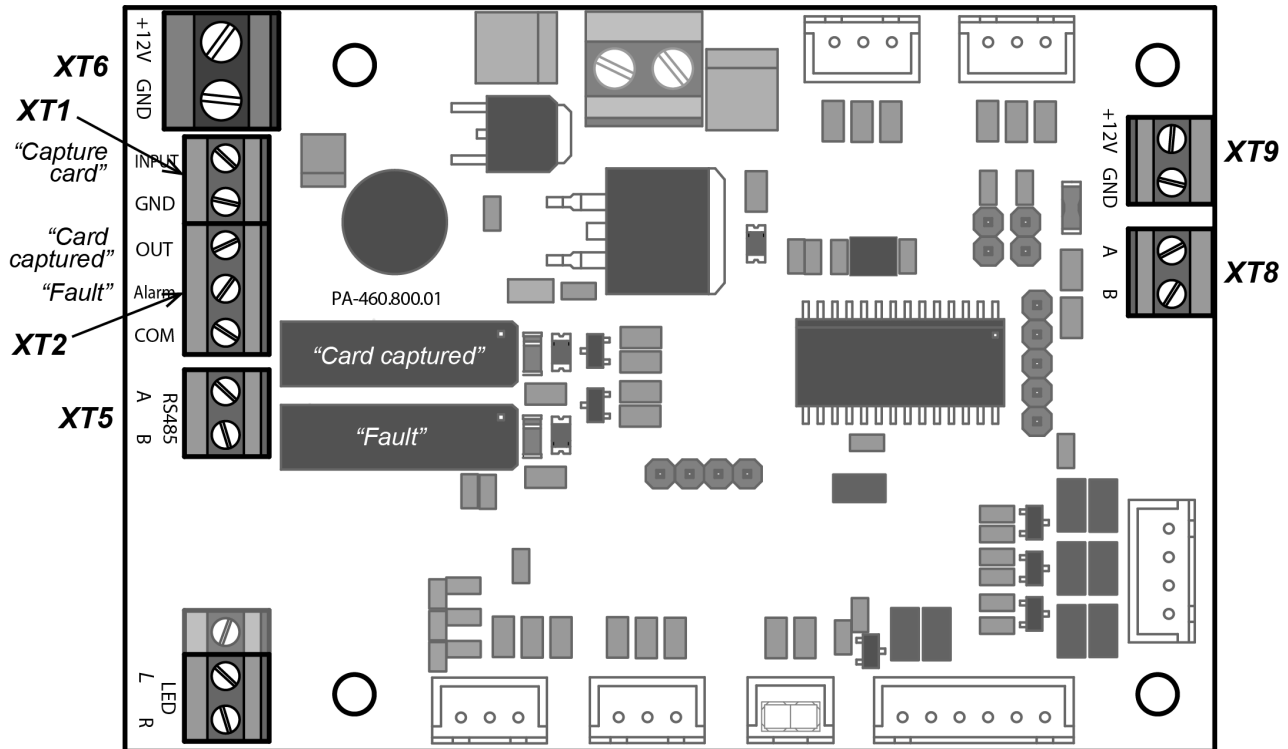

Figure 10. Control board of the card capture reader
3. If the presented card is a visitor's temporary card and requires withdrawal, the ACS controller sends a control signal to the input of the card capture reader control board "*Withdraw card*" (*INPUT* contact of the **XT1** connector, see Fig. 10). The backlight of the slot for receiving cards will switch to flashing mode with a frequency of 2 times per second, indicating that the card is subject to withdrawal.
5. The second optical sensor registers the fact of withdrawal when the card is dropped into the container. The card capture reader closes the shutter; the backlight of the receiving slot becomes constant again. In this case, the "*Card withdrawn*" (*OUT* contact of the **XT2** connector, Fig. 10) control signal is sent from the output of the control board of the card capture reader to the ACS-controller and serves as a confirmation of the withdrawal of the card and activates the passage permission. Upon receiving the signal, the ACS controller allows passage in this direction (sends a corresponding signal to the turnstile control mechanism) and, after passing through the turnstile, removes the "*Withdraw card*" signal. Upon removal of the "*Card withdrawn*" signal, the card capture reader removes the "*Card withdrawn*" signal.
6. The third optical sensor monitors the fact that the card reader container is filled. When it is full, the card capture reader sends an "*Alarm*" signal to the ACS controller (*Alarm* contact of the **XT2** connector, Fig. 10), the backlight of the card capture reader slot will switch to flashing mode with a frequency of 1 time per 2 seconds, thereby warning that the container is to be emptied. The card capture reader operation will be blocked after it has received another 9 cards if the container is not emptied. Unlocking of the card capture reader and deactivation of the "*Alarm*" signal will occur automatically when the container is emptied from cards (Sect. 9.5). Also, the "*Alarm*" signal is sent to the ACS controller in the event of a malfunction of the card capture reader mechanism.
The control board overall view is shown in Fig. 10. On the board, there are terminal blocks: